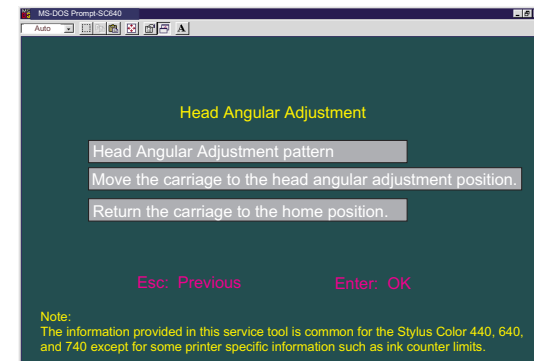

Figure 5-26. Current Head Angular Confirmation Menu (1)
*If you perform this adjustment with the upper case installed, select “**Move the carriage to the head angular adjustment position**” on Current Head Angular Confirmation Menu (1) screen (Figure 5-26) before loosening the screw.*